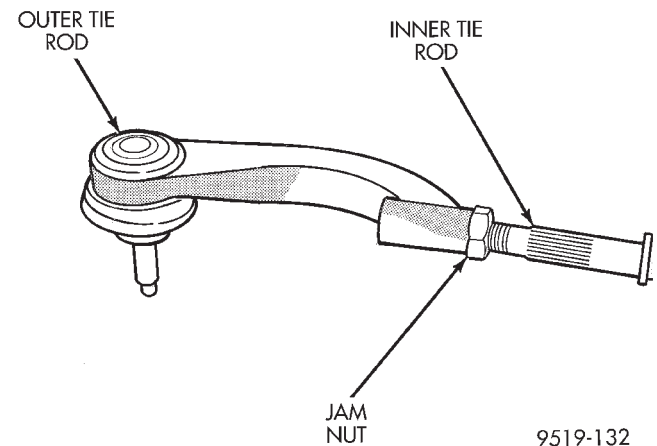

Fig. 25 Inner To Outer Tie Rod Jam Nut
(1) Loosen inner tie rod to outer tie rod jam nut (Fig. 25).
(5) Adjust the front Toe setting on the vehicle. Refer to the Toe Setting Procedure in Front Suspension Service Procedures in this group of the service manual. Refer to the Specifications Section at the end of this group for the desired front Toe specification.
(6) Tighten tie rod jam nut (Fig. 25) to 75 N·m (55 ft. lbs.) torque.
(7) Adjust the steering gear to inner tie rod boots at inner tie rod if they became twisted during Toe adjustment.